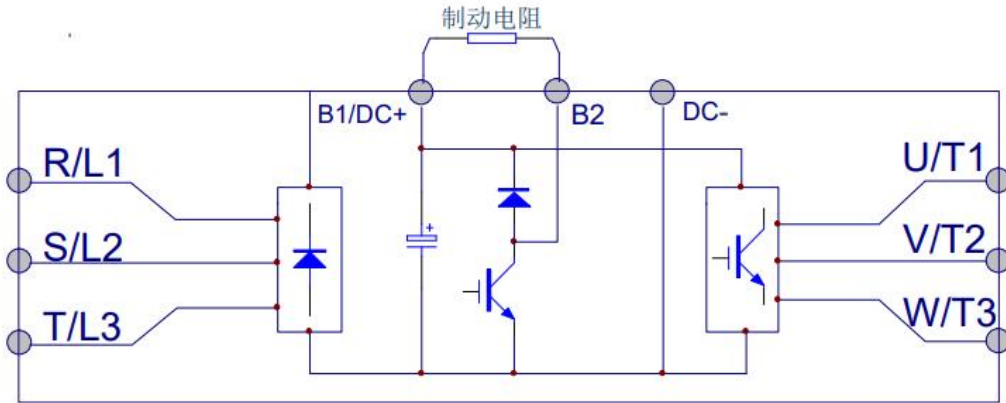

Figure 4-11 Connection diagram of external braking resistor
- For the connection of external braking resistor, see Figure 4-11.